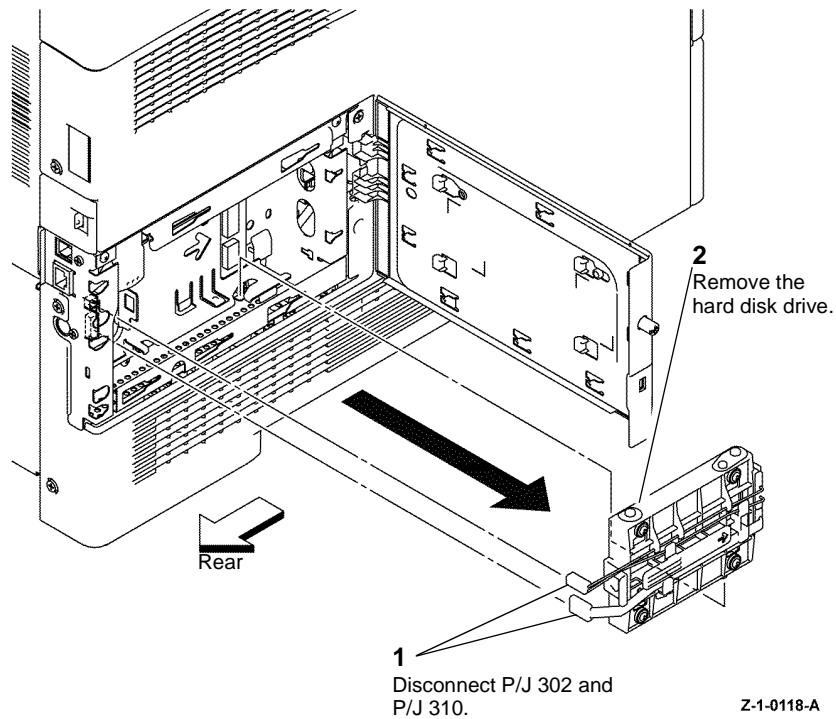

Figure 1 Hard disk drive
1. Remove the hard disk drive, Figure 1.